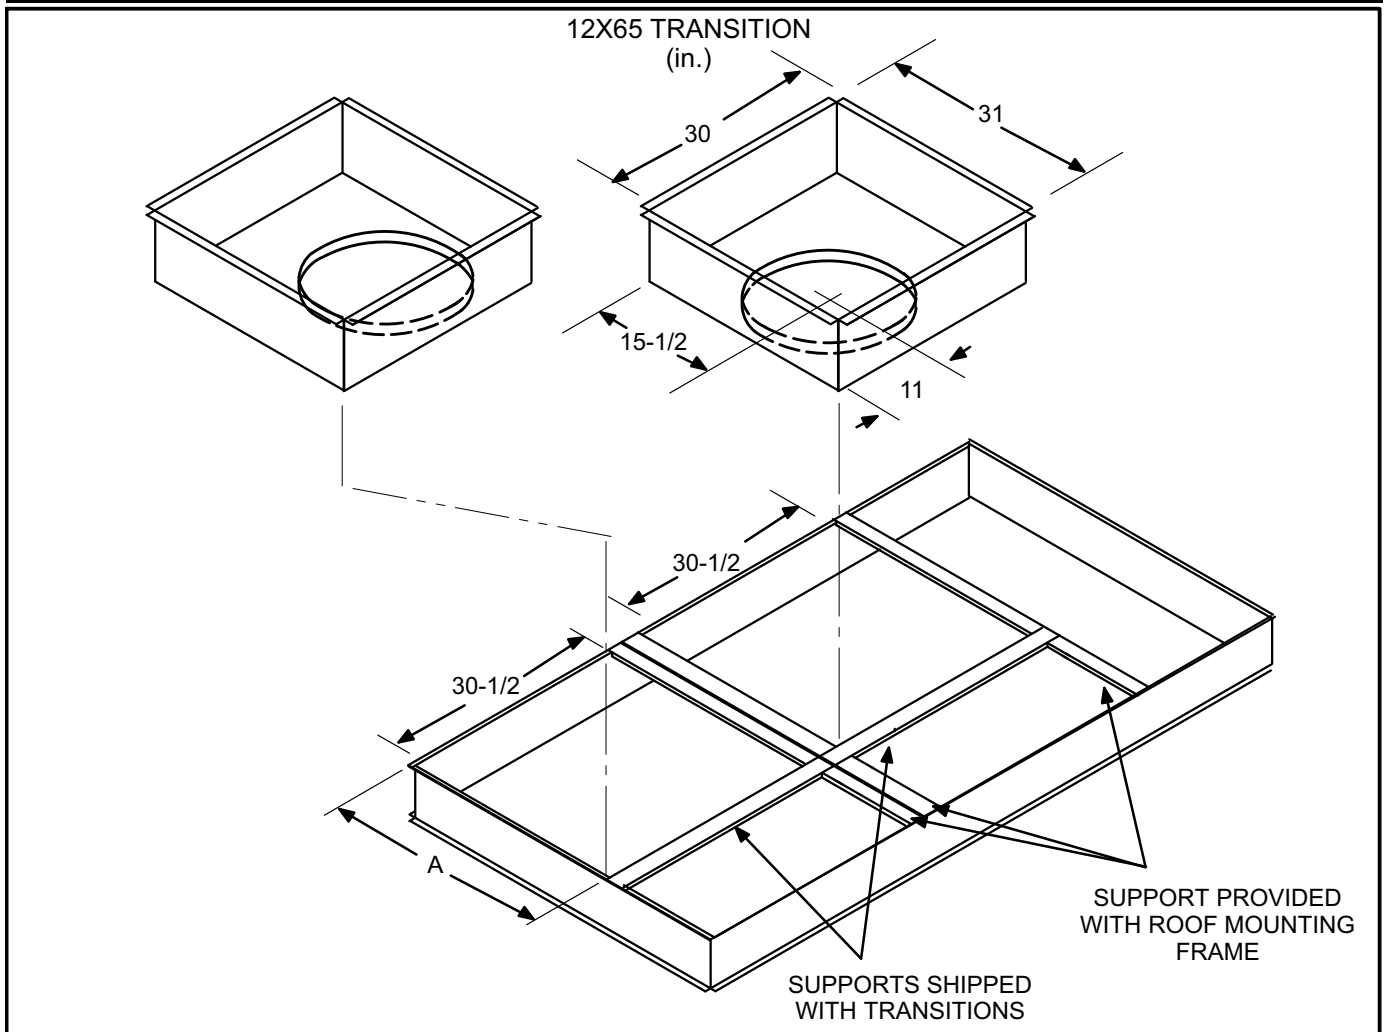

FIGURE 1
- 2- Install the supply and return air braces as shown in figure 1 or 2.